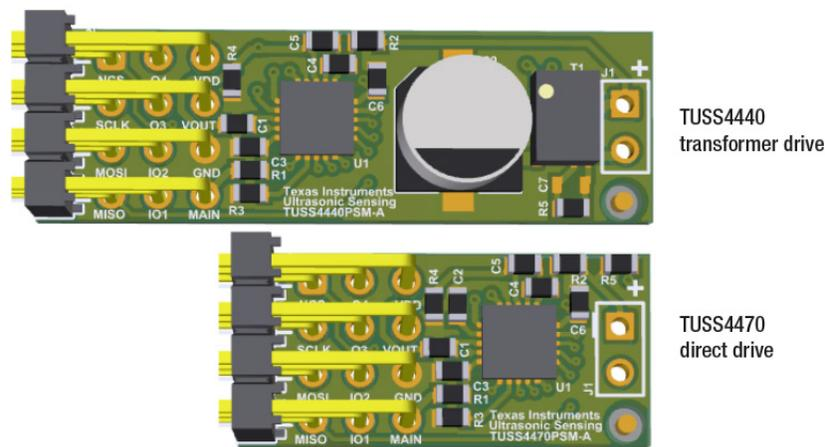

Figure 2. TUSS4440 and TUSS4470 reference designs to scale
A direct-drive ultrasonic system can be used with a smaller charging capacitor, which reduces PCB size even further. Figure 2 compares the sizes of the TUSS4440 transformer-drive ultrasonic integrated circuit (IC) and TUSS4470 direct-drive ultrasonic IC.